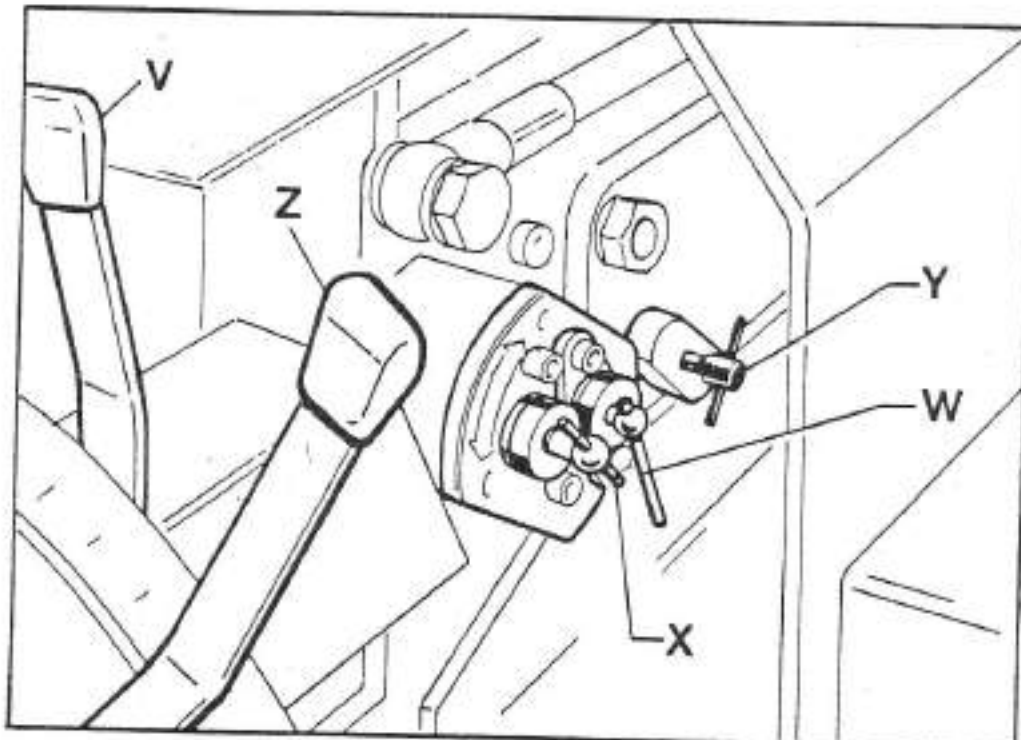

Fig. 11
With the main switch in "off" position the electric system circuit is on; by turning the light switch clockwise to the first position the parking lights (including the licence-plate light) light up, to the second position the traffic beams are on, to the third the country beams. By turning the main switch to its original (open) position all lights turn off (Fig.11).
- V - DRAFT CONTROL ADJUSTMENT LEVER (Fig.11)
- Z - POSITION CONTROL ADJUSTMENT LEVER (Fig.11)
- X - IMPLEMENT LOWERING SPEED REGULATOR AND HYDRAULIC LOCK (Fig.11)
Y - AUXILIARY HYDRAULIC PLUG COCK (Fig.11)
W - SENSITIVITY REGULATOR OF DRAFT CONTROL (Fig.11)